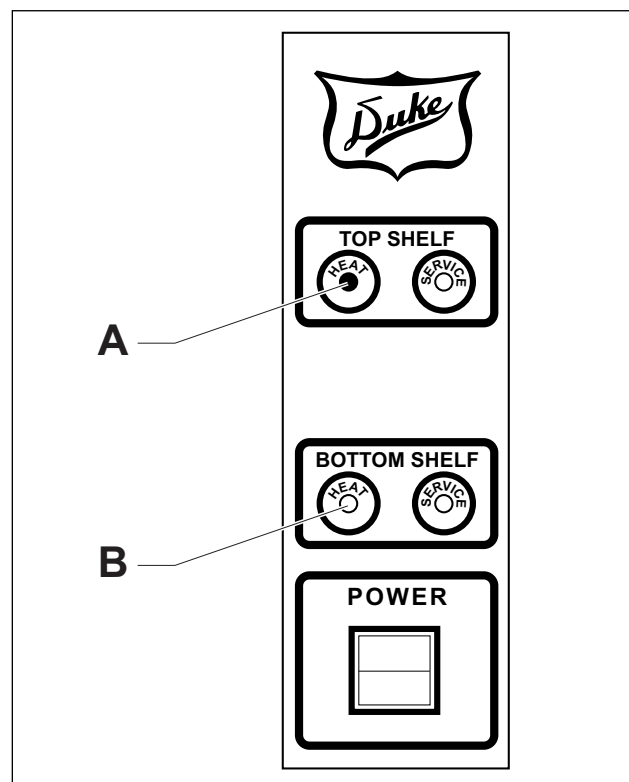

Figure 17. Flashing Lights Front
4. Observe the front of the control (Figure 17). Press and release S1 on the back of the FWM control until the desired light on the front of the control flashes. (See Flashing Lights table.)